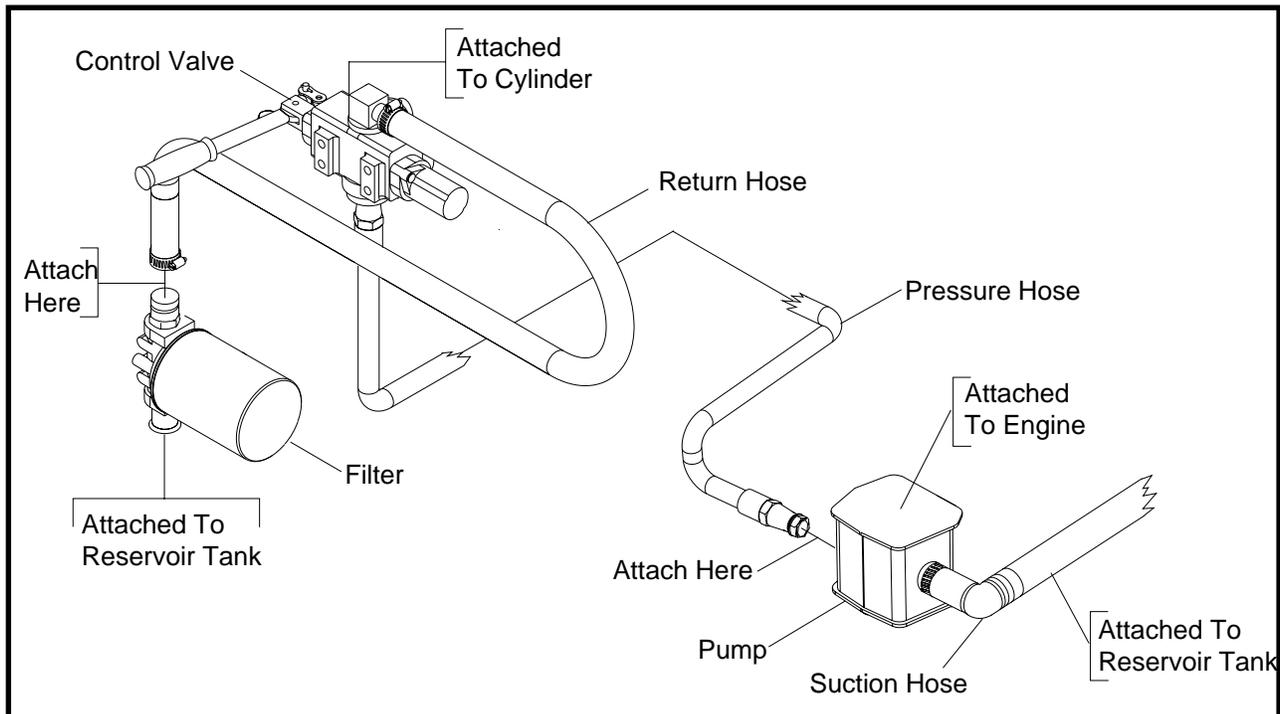

Figure 4
2. Remove reservoir vent plug. Refer to Figure 4.